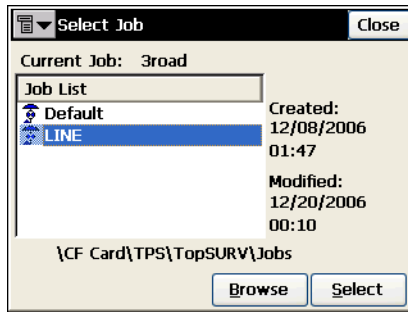

Figure 5-13. Select Job
1. Select **Job ▶ Export ▶ To Job**, the *Select Job* screen opens (Figure 5-13).